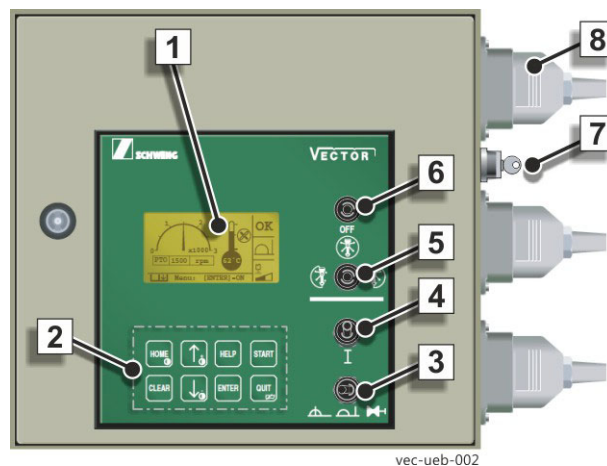

Fig. 388 Cable connector X 15 VECTOR
- Make sure that the cable connector X15 (8) (**Fig. 388**) or (**Fig. 389**) of the radio receiver is plugged into the switch cabinet of the machine.